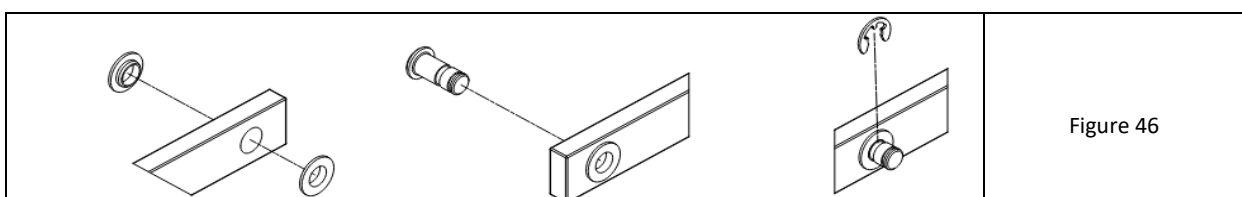

Figure 46
1. Install small slip rings in the drive rod - on both sides of each hole in the rod (fig. 46-left).
2. Then, in each hole with the rings installed, push the steel pin completely (fig. 46-middle) and from the side opposite to its head, use a dedicated tool to install a small snap ring in the groove farthest from the end (fig. 46-right).